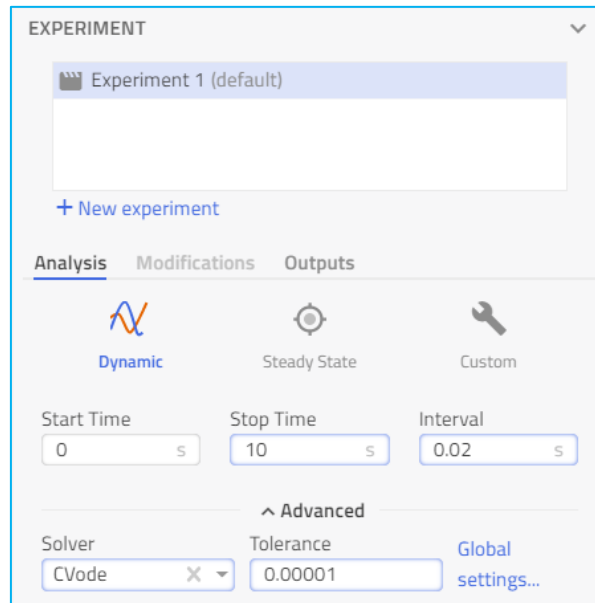

Figure 4 Simulation setup
- Switch to **Experimentation** mode by clicking the button  in the *App Bar* on the top of your window. You can now safely experiment with your model, without changing the original model. In the *Details Panel*, expand the **Experiment** tab, and under **Analysis**, go to **Advanced** and see the numerical settings (solver and tolerance). See **Figure 4**.